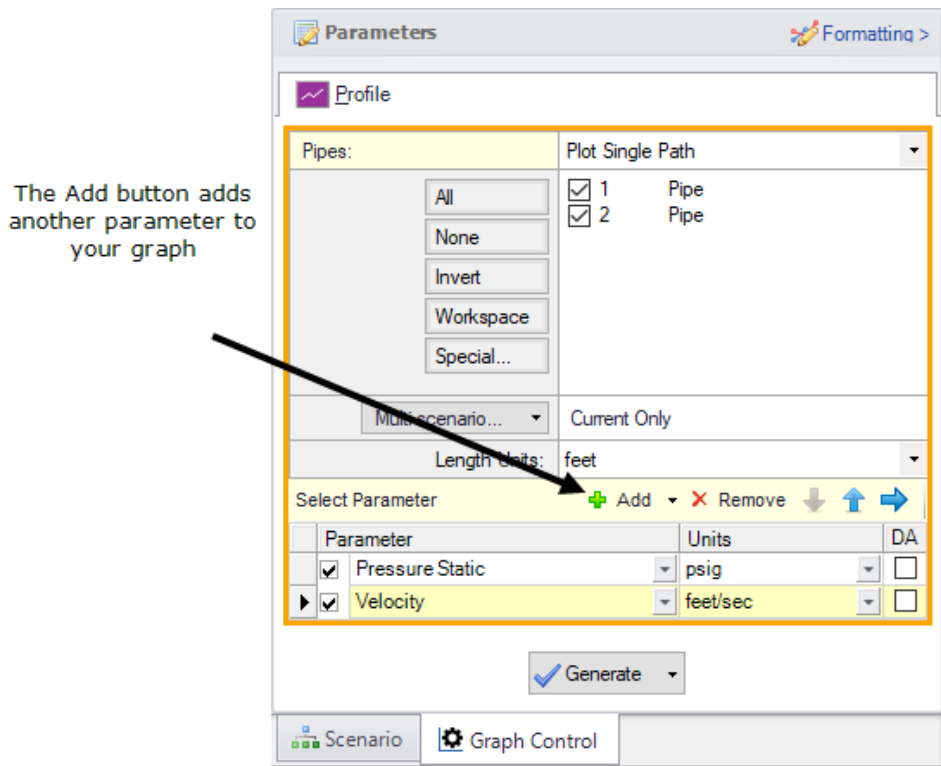

Figure 2.22 The Graph Control tab on the Quick Access Panel allows you to specify the graph parameters you want to graph in the Parameters/Formatting area
- **To add a stacked graph,** click the Add button with the green “+” icon next to Select Parameter, shown in Figure 2.22. A new row under the Parameters definition area will appear.